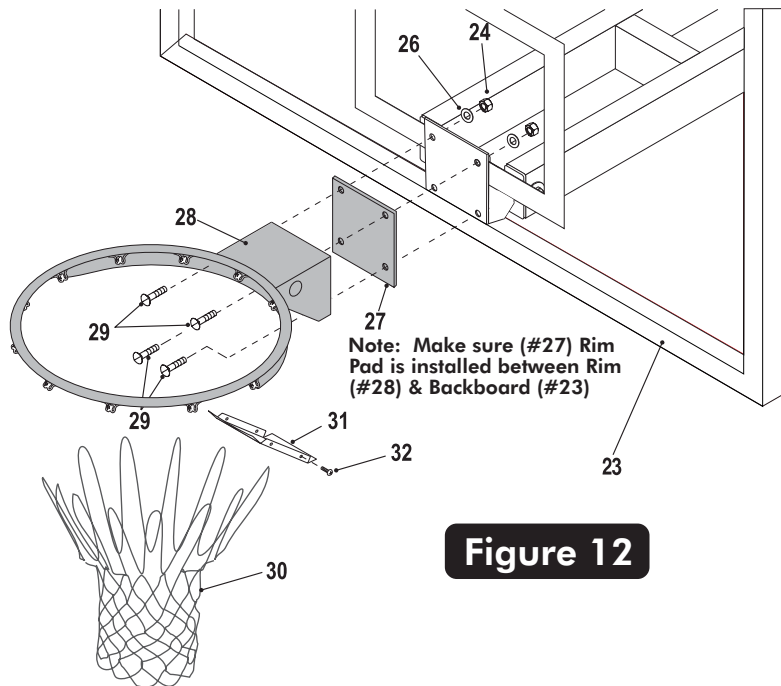

Figure 12
16. Mount Goal Assembly (#28) and Rim Pad (#27) to Backboard, as shown in **Figure 12**, using four bolts (#29), washer (#26) and four nuts (#24). Tighten Fasteners but leave loose enough to level rim.